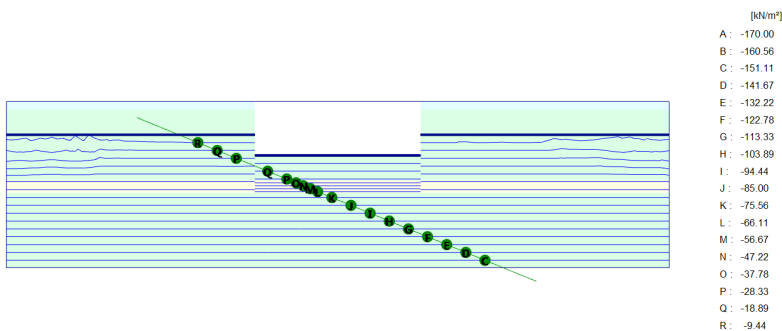

Figure 2.5 Preview of the steady state pore pressures in *Phase_4* in a cross section
-  Display the contour lines for steady pore pressure distribution. Make sure that the *Legend* option is checked in *View* menu. The steady state pore pressure distribution is displayed in Figure 2.5. Scroll the wheel button of the mouse to zoom in or out to get a better view.